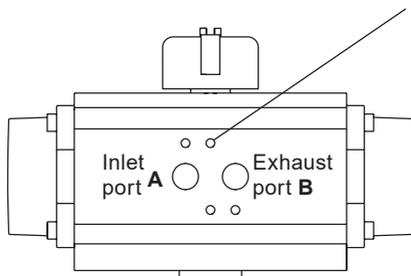

Fig. 3 BVA actuator showing inlet and exhaust ports
- Fit the screwed location pin from the MV kit in the top centre position above the actuator ports (see Figure 3). Ensure the pin is screwed far enough into the actuator to allow a good seal to be made i.e. that it is not holding the solenoid away from the actuator.